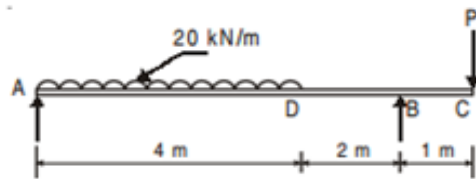

Fig.3
- 4 a) Explain the following: (5)
- b) Determine the load P such that reactions at supports A and B are equal in the beam shown in fig3. Draw the shear force and bending moment diagrams and mark the values at salient points. (10)